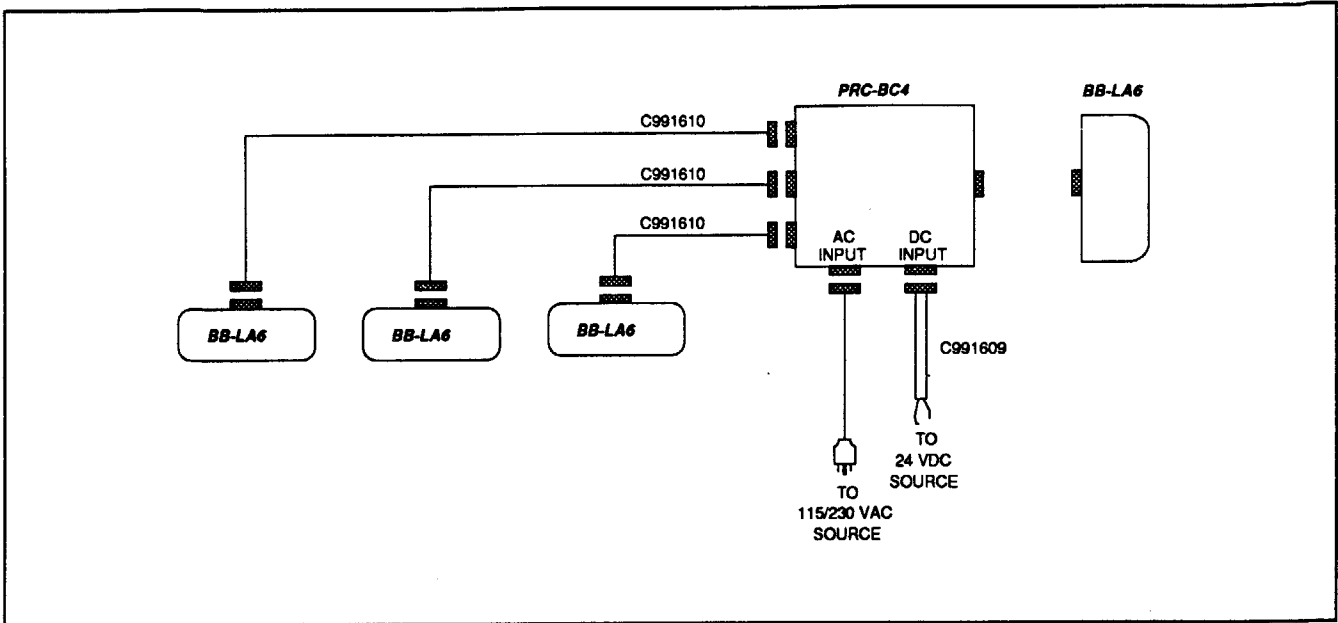

FIGURE B-3.
2. Attach the PRC-BC4 to the battery packs to be charged (Figure B-3).